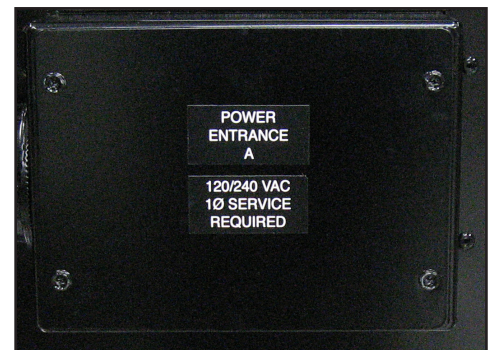

Figure 5: Myers Hub Power Termination Box
4. Connect conduit to the 2" Myers hub at the left of the power entrance box, shown in **Figure 5**.